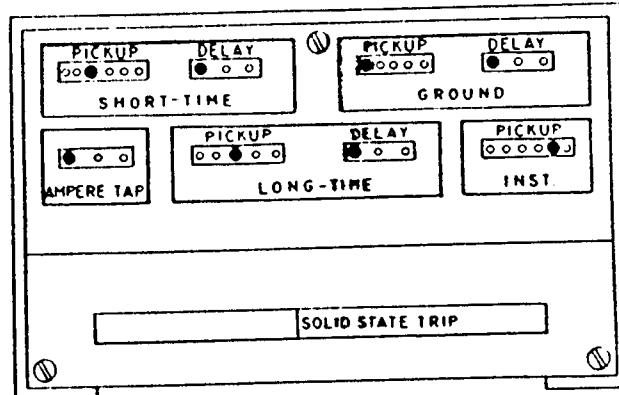

Fig. 19 — Solid State Overcurrent Trip Device
1. Turn adjusting screw (1) out as far as possible so that the circuit breaker will not trip when the magnetic latch trips.
2. Remove the terminal block cover on the solid state assembly by removing two lower screws (Fig. 19). Disconnect two wires at terminals 15 and 16.
4. While lightly holding down at point "A" so that the lever (2) does not move through its full stroke and trip the circuit breaker, momentarily apply the voltage (3V) from two dry cell batteries, size "D", to the two wires (+ to wire 16, - to wire 15) that were disconnected in operation 2. The magnetic latch should trip.
5. Gradually release the hold on lever (2).
6. While holding the lever (2) in the tripped position, turn in on screw (1) until the circuit breaker just trips, then turn in one additional turn.
OVERCURRENT TRIP DEVICE SETTINGS (See Fig. 19)**